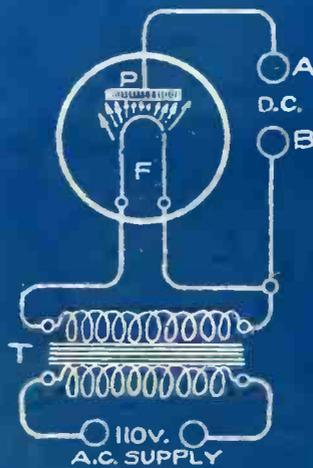

FIG. 5
An electron tube, a common example of which is the Tungar bulb, is very commonly used as a rectifier. In this device a heated filament throws off electrons within an exhausted vessel and current is conveyed only in one direction in the electron stream. In Fig. 5 is a two element rectifying tube similar to a Tungar bulb. The filament (F) is heated to the point where electrons are freely emitted and the electrons form a path from the filament to the plate (P). A transformer (T) connected to the 110 volt A.C. lighting circuit supplies current for heating the filament and the two connections (A) and (B) are the terminals from which the half-wave rectified current is drawn.